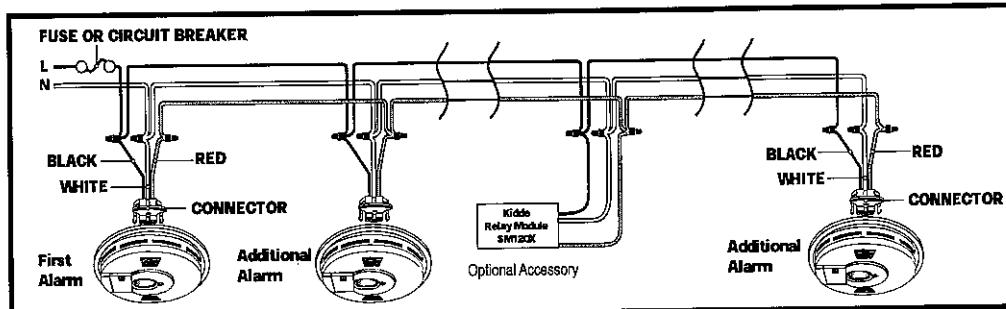

FIGURE 3 Interconnect Wiring Diagram
- Figure 3 illustrates interconnection wiring. Improper connection may result in damage to the alarm, failure to operate, or a shock hazard.